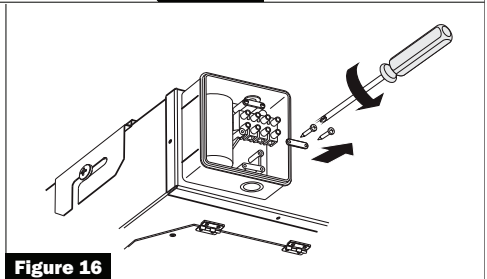

Figure 16
2. Remove the clamping bar. (Figure 16)